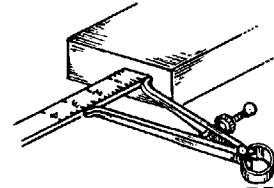

FIG. 7 CHECKING FOR SIZE
3. To measure the distance over the caliper legs with the aid of a steel rule, place one end of the steel rule against a vertical surface. Hold the caliper leg against the vertical surface, keeping the ends level at the same time. Read the dimension from the rule (Fig. 7).